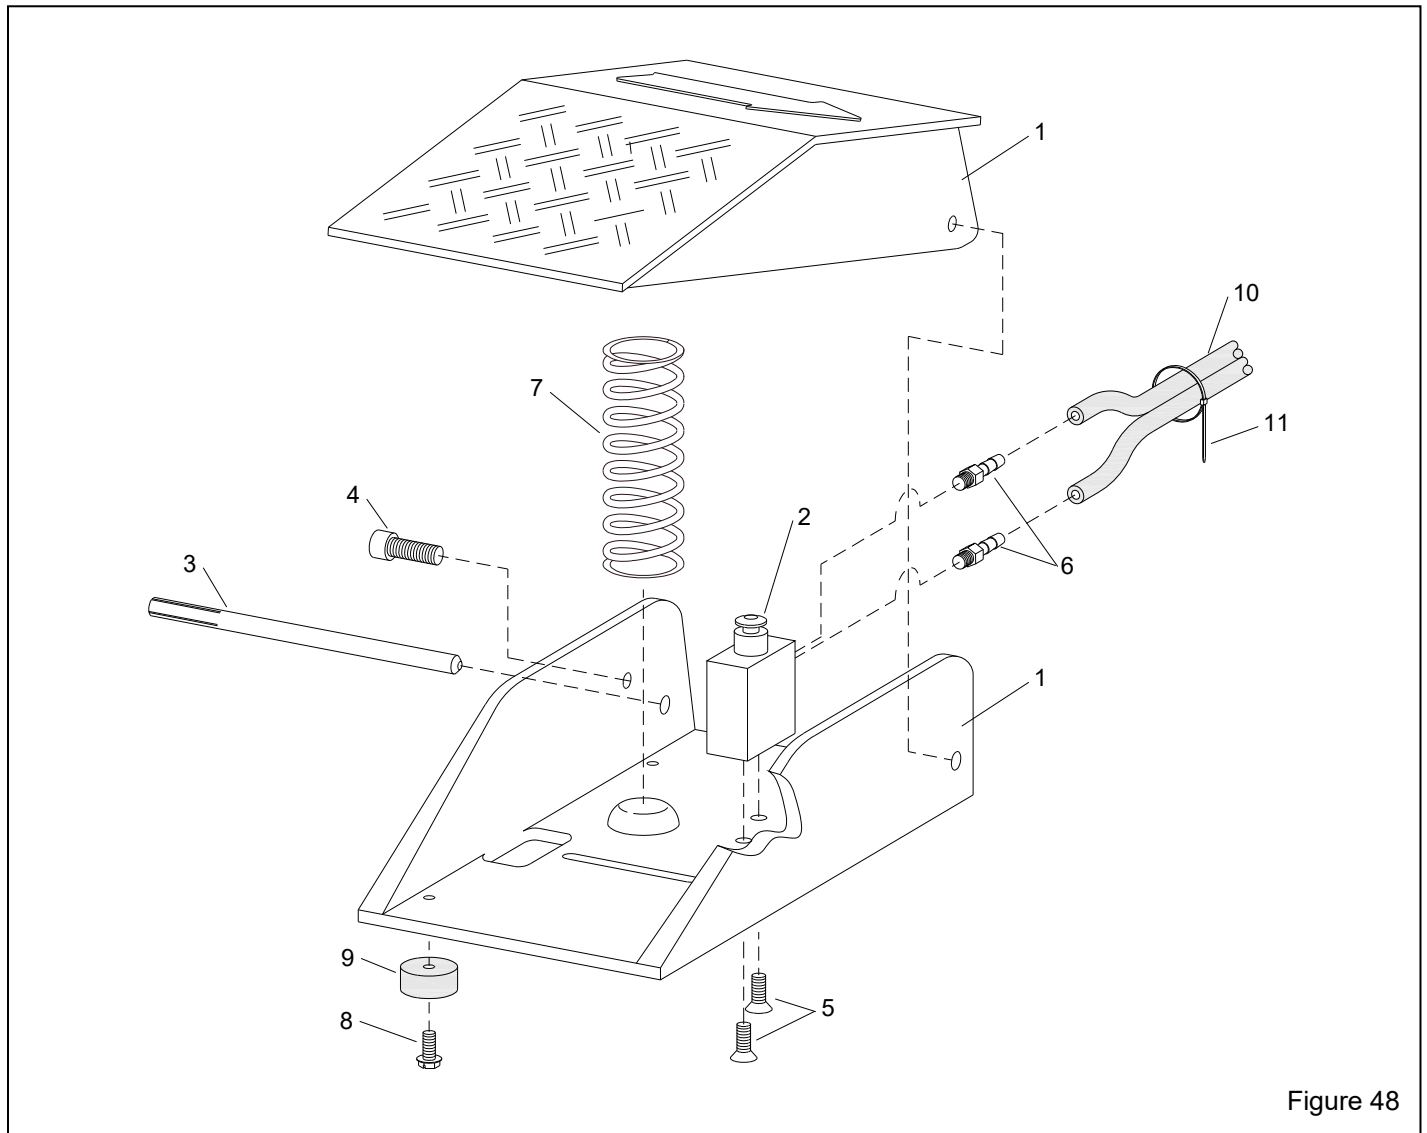

Figure 48
9.3 Foot Pedal Assembly – Figure 48